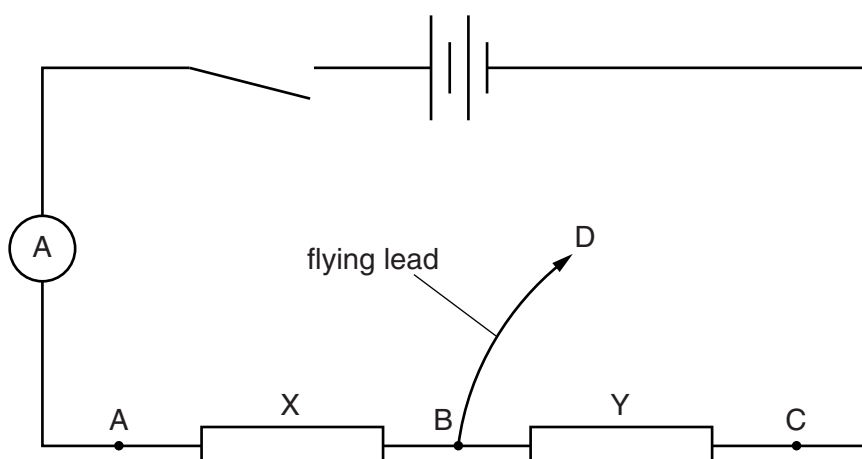

Fig. 3.1
2. The Supervisor should set up the apparatus as shown in Fig. 3.1. The terminals A, B, C and D should be clearly labelled.
4. At the changeover, the apparatus should be restored to its original state as in Fig. 3.1, disconnecting end D of the flying lead from the circuit. If cells are used, they should be checked, and replaced if necessary.